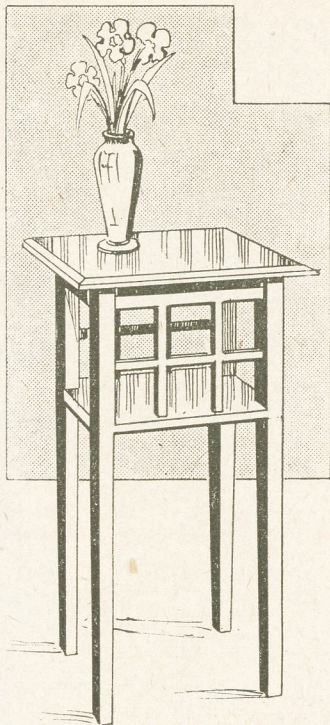

Fig. 1—A handsome little table
**T**HE neat little hall or side table which we show in Fig. 1 should, for preference, be made of oak, but mahogany or beech or one of the other hardwoods would answer well. There are the usual tapered legs connected at the top by cross rails.